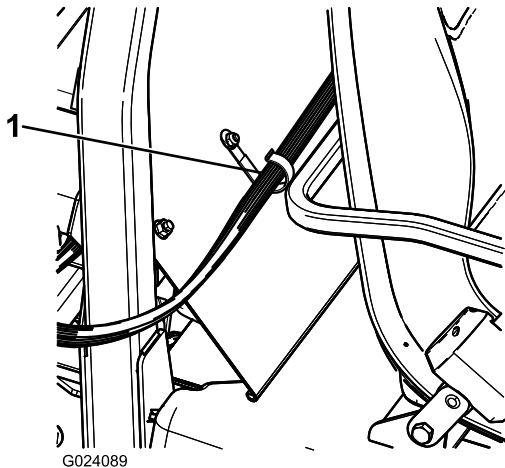

Figure 22
2. Install a J-clip behind the passenger seat using a bolt (1/4 x 1/2 inch) and a flanged nut (1/4 inch) (Figure 22).
3. Secure the control console harness to the console and ROPS cover using the J-clips (Figure 22).